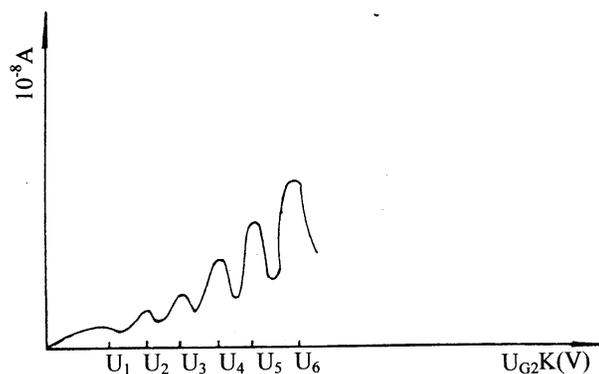

Fig. 3
A voltage of about 1.5V is added between the first grid (G1) and the cathode (K) to dismiss the effect of space charge on cathode scattering electrons. When the filament is heated, the electrons transmitted by the cathode oxide are accelerated in the electric field between the second grid (G2) and the cathode, obtaining more and more energy. At the beginning, because of the low voltage between the second grid and cathode, the electron energy is low. Thus the energy exchanged is little even if the electrons collide with the atom. Therefore the plate current I_A formed by electrons penetrating the second grid will increase with the increase of U_{G2K} . (segment OA in Figure 3)